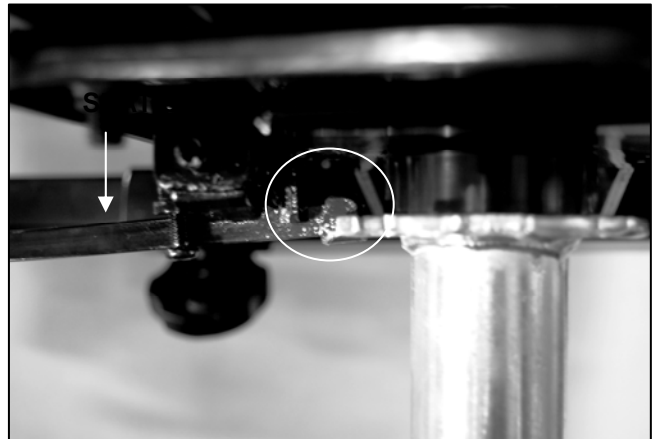

FIGURE 25. SEAT SWIVEL LEVER LOCKED
3. Push down and twist on the seat to make certain that the seat swivel post is fully inserted and locked. See figure 25.